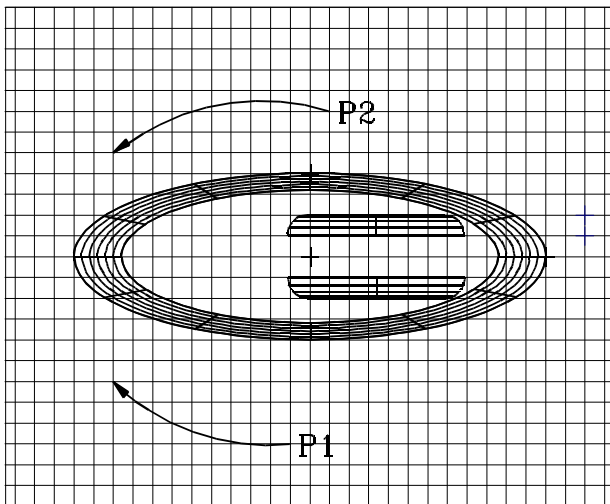

Figure 32:
70. Working in the top view, click on a pick up point on the grid in line with the spline, as shown in Figure 32.
71. Click on a put down point on the opposite side of the base, in a straight direction from the pick up point, as shown in Figure 32.